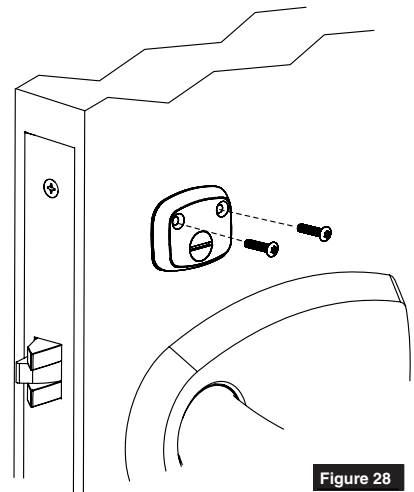

Figure 28
1. Install coin-turn using two surface mount screws. (Figure 28)